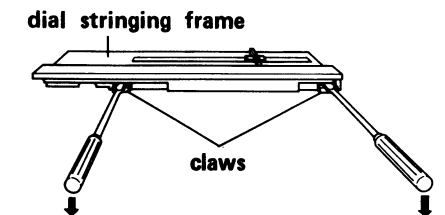

Figure 6-2
4. Take out two claws situated at the bottom of the dial scale plate from the dial stringing frame as shown in Fig. 6-2.